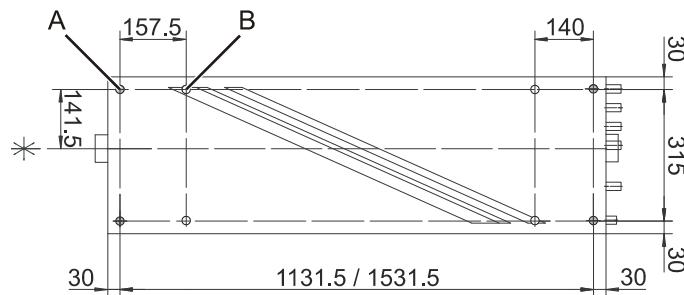

Figure 43: Position of anchoring device location holes
Figure 43 indicates the positions of the holes (A) in relation to the beam exit position, sides of the housing and laser device feet (B). For further information about the location and configuration of the feet, please refer to Section 4.5.2.